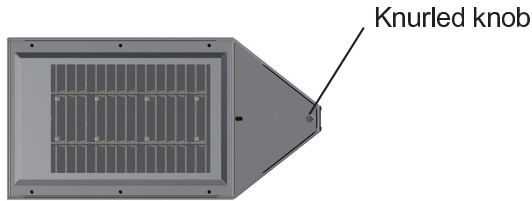

FIGURE 1
2. Remove access panel by turning knurled knob CCW (counterclockwise). See Figure 1.